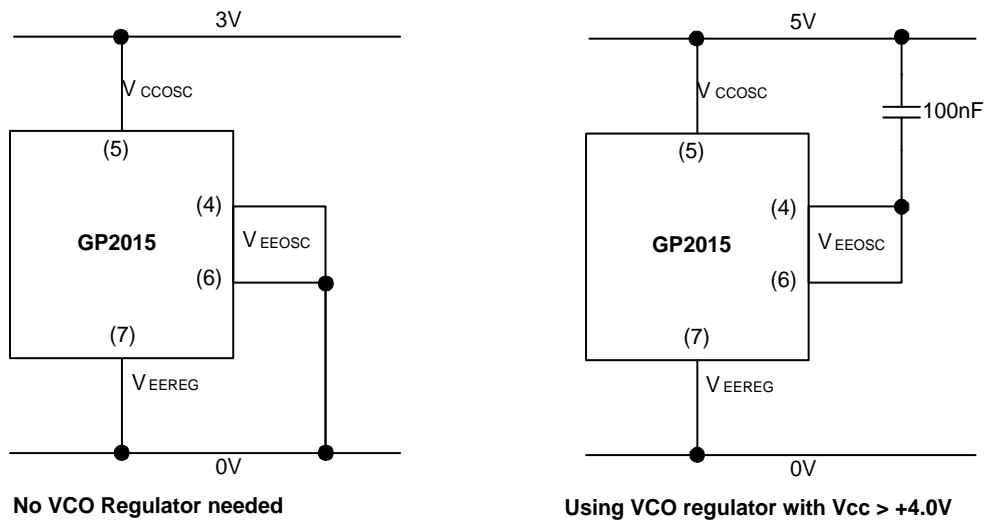

Figure 7 - VCO power-supply connections
- Both pins 4 & 6 (V_{EE} (OSC)) are connected internally. If the VCO regulator is used ($V_{CC} = +5.00V$ nominal) then both pins 4 & 6 must be left floating, with either pin de-coupled to V_{CC} (OSC) with a 100nF capacitor. In this configuration, the dc output level of the regulator can be monitored from V_{EE} (OSC), with respect to V_{CC} (OSC) - NOT 0V (V_{EE} /GND). For operation at $V_{CC} < +4.0V$, the VCO regulator cannot be used, and both V_{EE} (OSC) pins must be shorted to V_{EE} (REG) (Pin 7) - see Fig. 7.